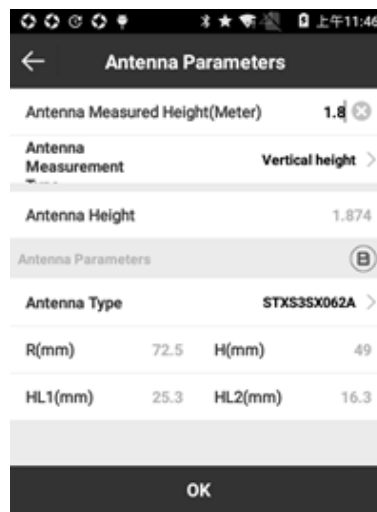
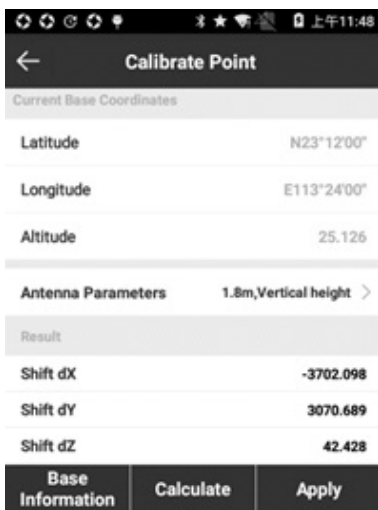

Figure 3.4-3
Figure 3.4-4
- (2) Input the known points, i.e. coordinate before base change. There are two ways to input coordinate: one is to select existing base coordinate from Points Library, the other one is to directly input base coordinate x, y, h before base change. Press [Antenna Parameters] to set antenna parameters as shown in Figure 3.4-3.
- (3) Input Antenna Measured Height, set Antenna Measurement Type (Vertical height, Height to phase center, Slant height, Slant height to altimetry), and Antenna Type is automatically selected according to current connected receiver, and press [OK] to return to Base Point Calibration interface.
- (4) Press [Calculate] to check calculation result as shown in Figure 3.4-4. Press[Apply] and it would directly apply the calculation result. If the calculation result is in